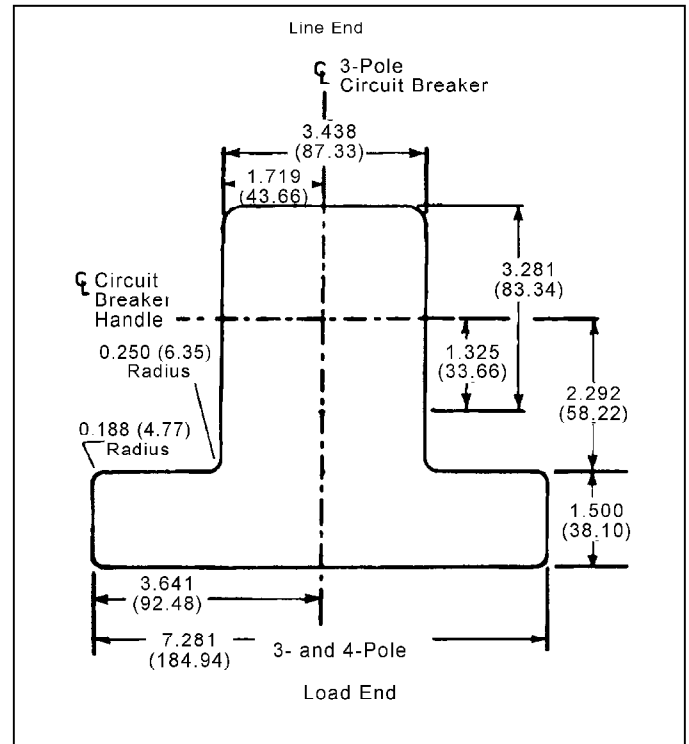
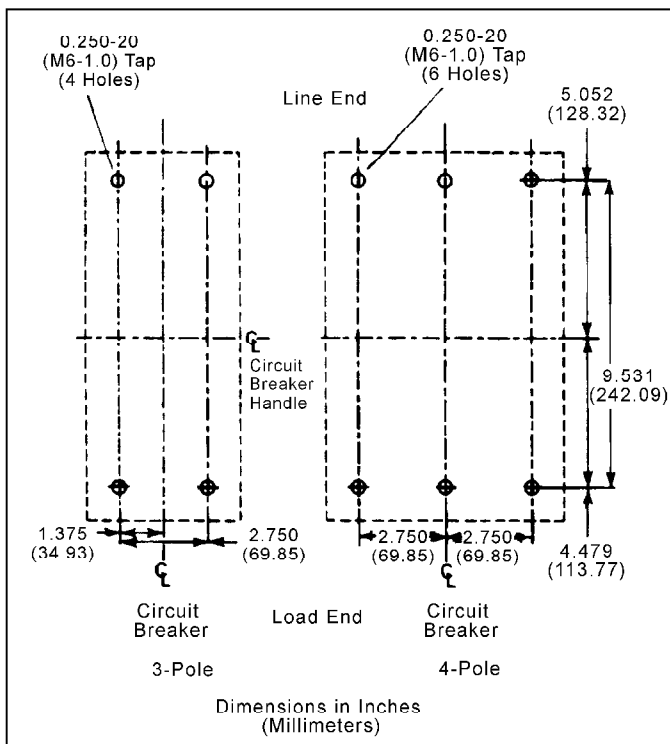

Figure 2-3 Circuit Breaker Escutcheon Cutout Dimensions for 3- and 4-Pole Circuit Breakers
Figure 2-2 3- and 4-Pole Circuit Breaker Mounting Bolt Drilling Plans
a. For individual surface mounting, drill mounting panel using the drilling plan shown in Figure 2-2. For panel-board mounting, only load end support mounting holes are required. For dead-front cover applications, cut out cover to correct escutcheon dimensions (Figure 2-3). Make sure accessory wiring is accessible when the circuit breaker is mounted.